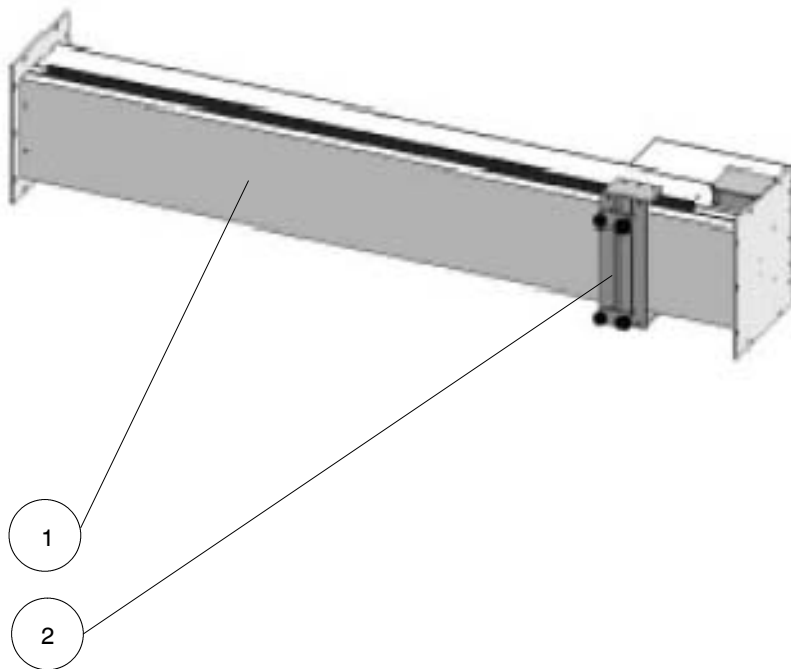

Fig. 2-1 HO Reciprocator
See Figure 2-1. The unit consists of a steel structure (1), fixed on support legs (not shown) to ensure stability during operation.